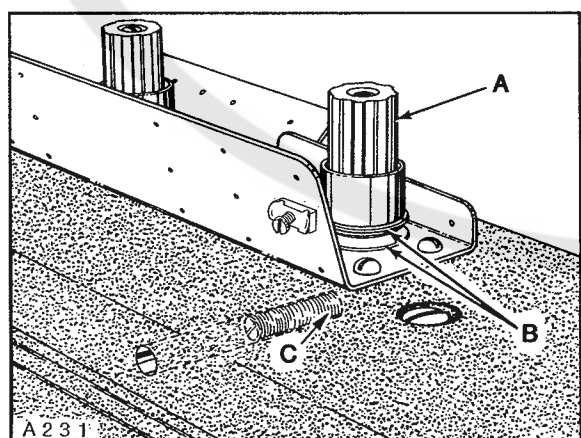

Fig. 25
Needle thread tension assembly (A, Fig. 25) is set correctly when the tension discs (B) begin to release thread as the presser foot is raised to within 1/8 inch (3.2mm) from the end of its travel and completely released when presser foot has reached its highest position. Adjustment can be made by loosening screw (C) and lower the tension assembly (A) to advance the release action or raise tension assembly to retard the release action. Hold tension assembly in desired position while retightening screw (C).